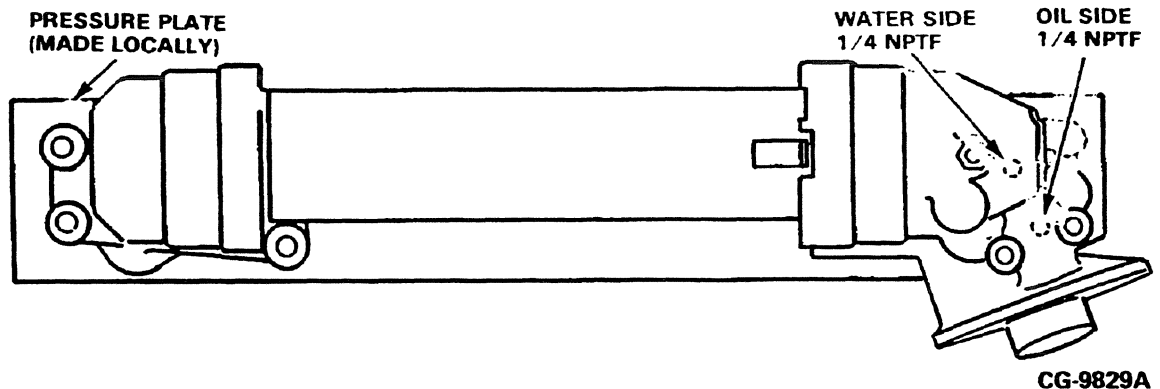

Figure 8.12. Pressure Plate Assembled to Cooler Assembly
2. Fasten the plate, using new oil cooler gaskets, to the cooler (**Figure 8.12**).